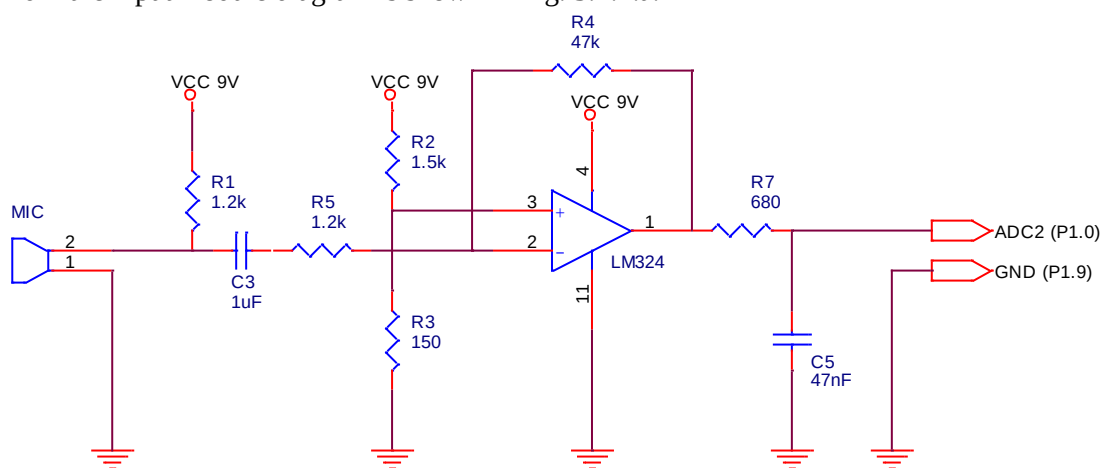

Fig. 3.2.1.a. Input Amplifier
- the input module diagram is shown in Fig. 3.2.1.a.